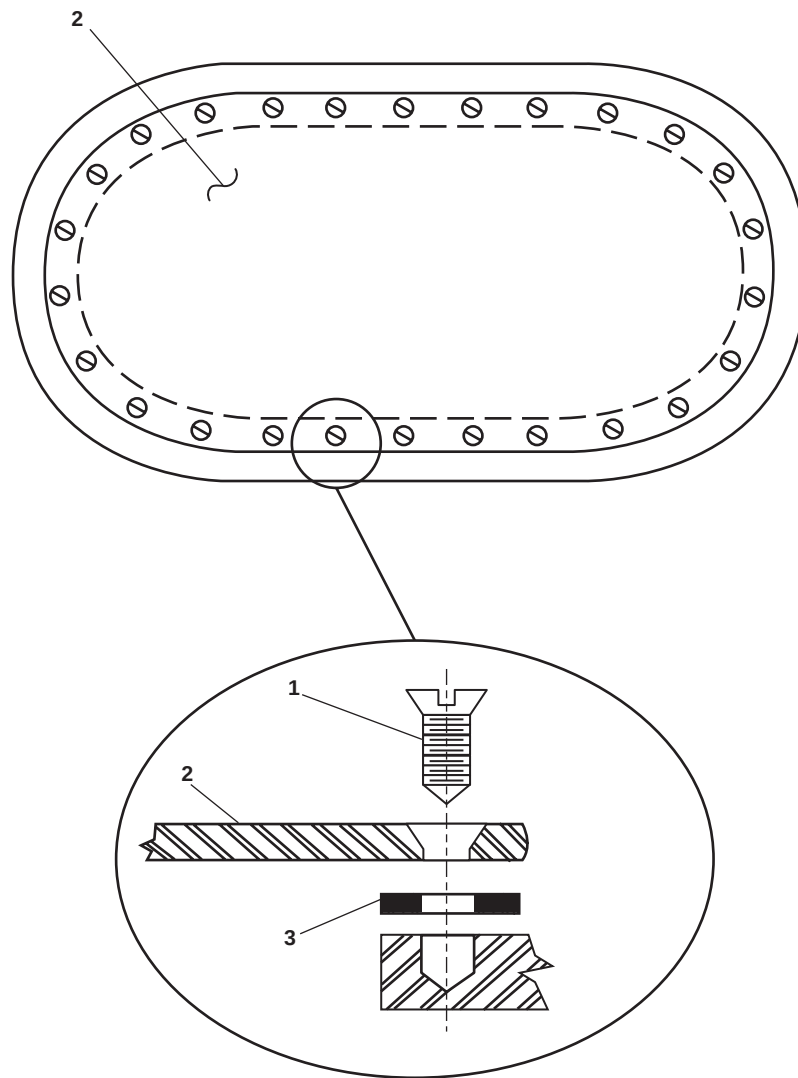

Figure 2. Manhole (Flush)
1. Remove the screws (figure 2, item 1) from the manhole cover (figure 2, item 2).
2. Remove the manhole cover (figure 2, item 2) from the closure.
3. Remove the gasket (figure 2, item 3) from the manhole cover.
4. Install the new gasket (figure 2, item 3) on the manhole cover (figure 2, item 2).
5. Place the manhole cover (figure 2, item 2) on the closure.
6. Install the screws (figure 2, item 1) on the manhole cover.